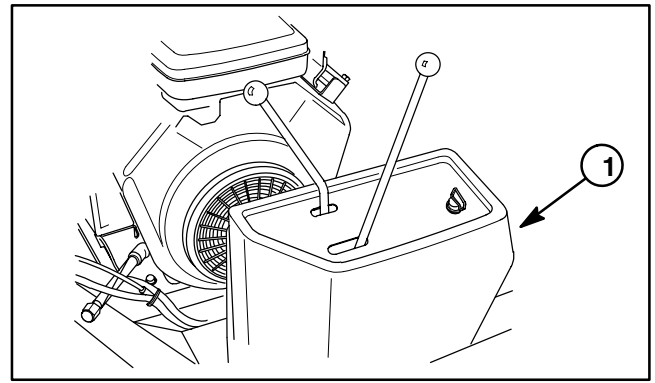

Figure 5
4. Remove control cover from machine (Fig. 5).